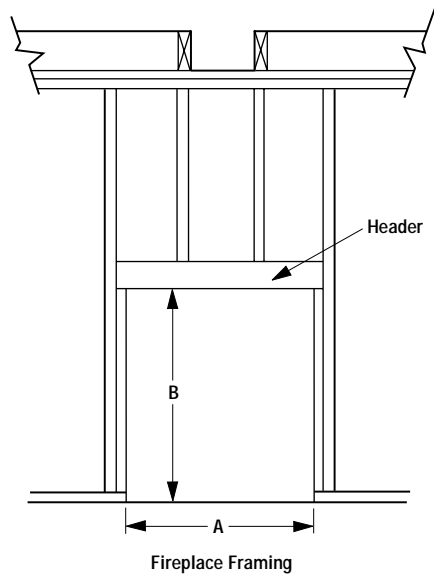

Figure 11
**Step 3.** Refer to fireplace drawings and specifications on pages 6 and 7 for framing dimensions and details. Frame appliance enclosure as illustrated in **Figures 11 through 14** on page 7.